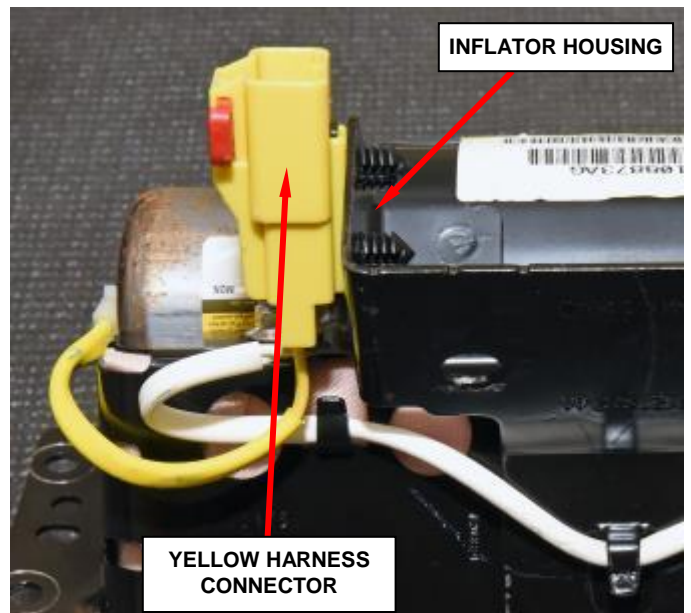

Figure 39 – Wire Harness Connector
c. Release the yellow wire harness connector from the inflator housing bracket (Figure 39).